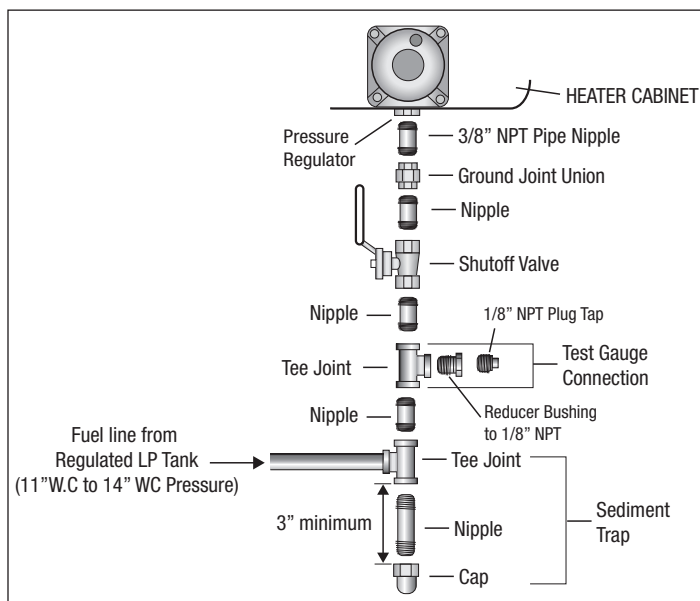

FIGURE 12
Installation must include an equipment shutoff valve, union and plugged 1/8" NPT tap. Locate NPT tap within reach of test gauge hookup. NPT tap must be upstream from heater (see figure 12).
Install sediment trap in supply line as shown in figure 12. Locate sediment trap where it is within reach for cleaning. A sediment trap traps moisture and contaminants. This keeps them from going into heater. If sediment trap is not installed or is installed improperly, heater may not run correctly.
1. Close equipment shutoff valve (see figure 12).
3. Open equipment shutoff valve (see figure 12).